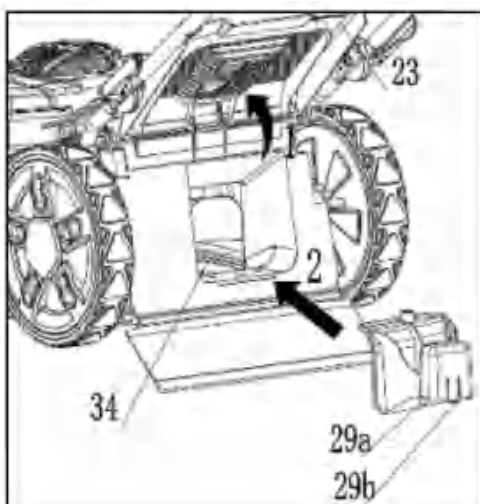

Fig. 14
1. Open the rear deflector guard (23) , hold it in position and insert the mulching insert (29) into the rear discharge chute (34) (Fig. 14). Ensure the two spigots (29a) and the locking latch (29b) snap into the rear discharge chute slots with a click sound.